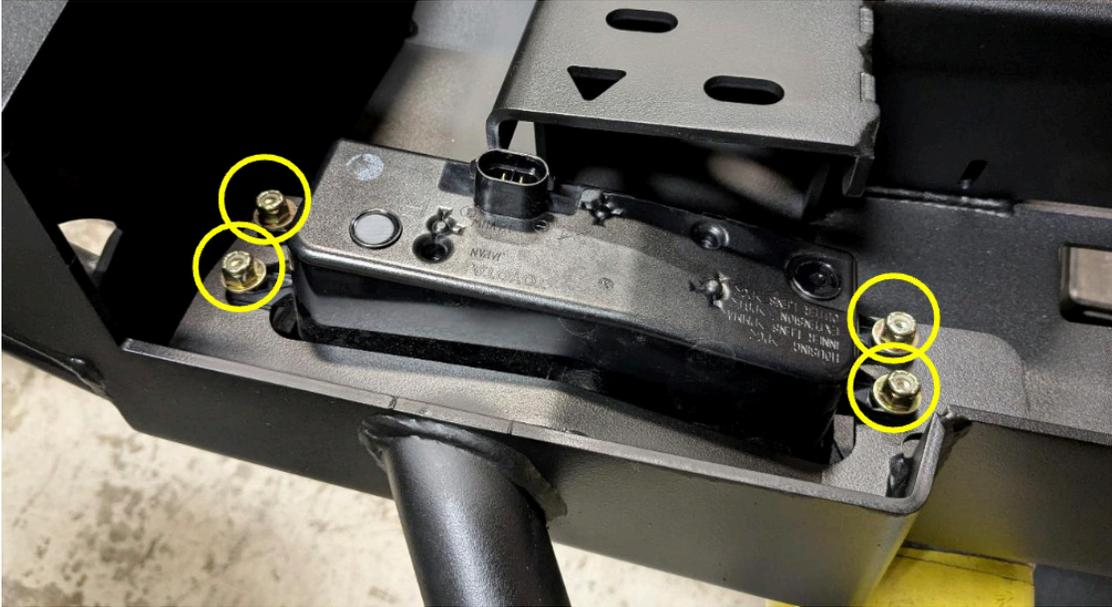

Figure 50
36. Reinstall the factory fog lights in their factory location and orientation into the new bumper using the eight (8) provided 1/4" hex head cap screws, flat washers and nylock nuts. (Figure 50)